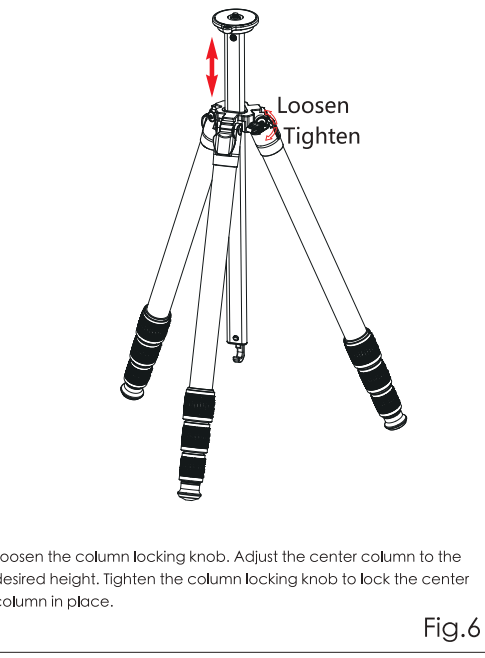

Fig.6
6. Column Ascent/Descent (Fig. 6)